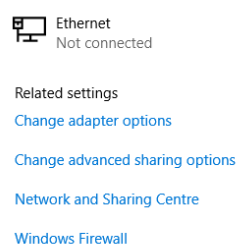

Fig. 4
In Fig.4 on the side, the IP address of the PC is 192.168.1.5. It belongs to the same class / network as NetLink, as the first 3 numbers (192, 168 and 1) are the same.
4. Choose Ethernet (Fig. 3) and the menu will open (Fig. 4).